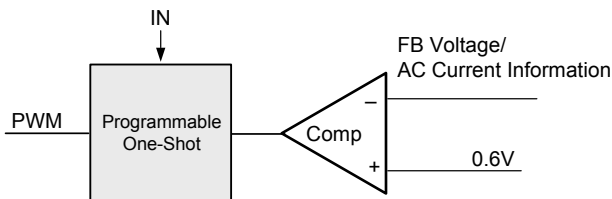

Figure 3. Simplified Control Schematic of AOZ2261NQi-11
The simplified control schematic is shown in Figure 3. The high-side switch on-time is determined solely by a one-shot whose pulse width can be programmed by one external resistor and is inversely proportional to input voltage (IN). The one-shot is triggered when the internal 0.6V is higher than the combined information of FB voltage and the AC current information of inductor, which is processed and obtained through the sensed lower-side MOSFET current once it turns-on. The added AC current information can help the stability of constant-on time control even with pure ceramic output capacitors, which have very low ESR. The AC current information has no DC offset, which does not cause offset with output load change, which is fundamentally different from other V² constant-on time control schemes.